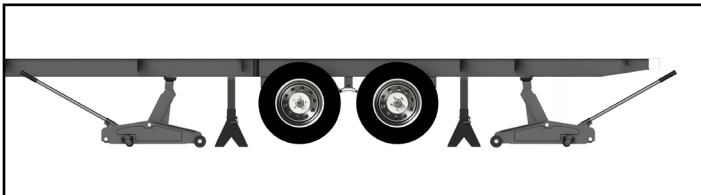

Fig.1
1. Using floor jacks, lift the frame slightly and place properly-rated jack stands under the axles (**Fig. 1**) so the shackle bolts can be driven out with a hammer.